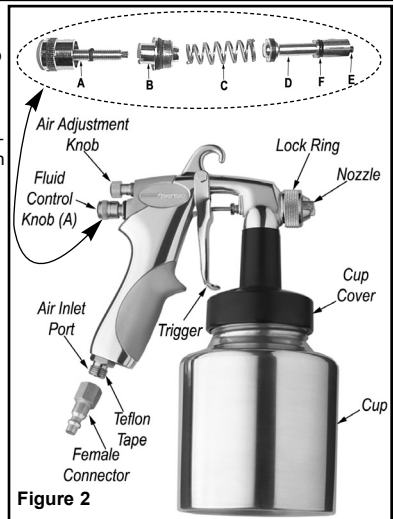

Figure 2
2. Install a 1/4" NPT female connector (not included) into the air inlet port on the tool (see Figure 2). **Note: Use Teflon® Tape on all threaded connections.**
- a. Fluid control knob (see Figure 2) - turn in a clockwise direction to close and counterclockwise to open. This knob controls the amount of paint that is mixed with the air.
- b. Air adjustment knob (see Figure 2) - for a full pattern, turn the knob in a counterclockwise direction and for a round pattern, turn the knob clockwise. This knob is used to create the proper pattern of paint as it is sprayed from the spray gun.